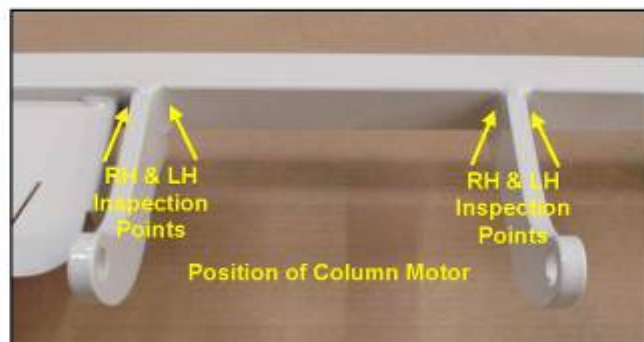

Fig 02
2. Inspect the weld joints as detailed in fig 02 below. Ensure the paint surrounding the welds is not flaking, showing signs of rust and the weld joints are intact. Inspect both the RH and LH weld fillets, above and below the Mattress Platform.